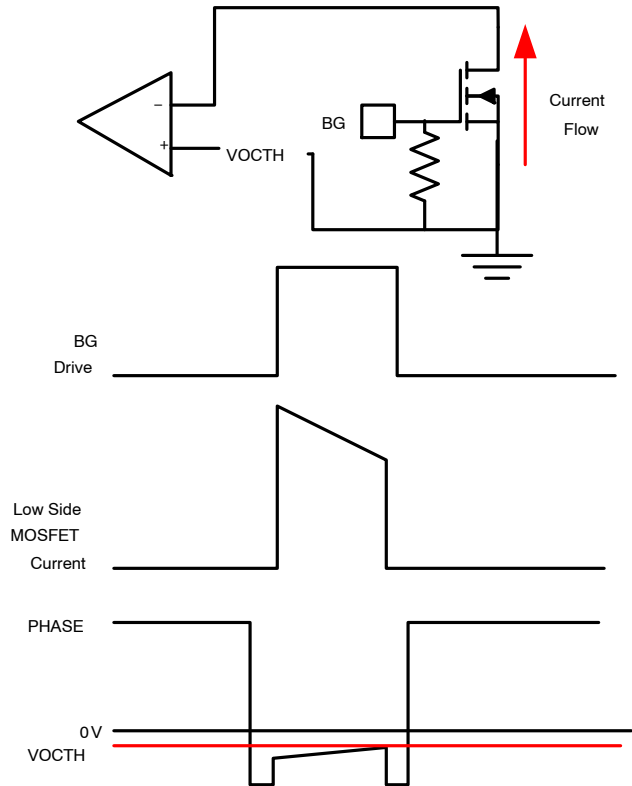

Figure 20. Current Limit Trip
In case of an overload, the low-side (LS) FET will conduct large currents. The regulator will latch off, protecting the load and MOSFETs from excessive heat and damage. Low-side $R_{DS(on)}$ sense is implemented at the end of each LS-FET turn-on duration to sense the current. While the low side MOSFET is on, the V_{SW} voltage is compared to the user set internally generated OCP trip voltage. If the V_{SW} voltage is lower than OCP trip voltage, an overcurrent condition occurs and a counter counts consecutive current trips. If the counter reaches 7, the PWM logic and both HS-FET and LS-FET are turned off. The regulator has to go through a Power On Reset (POR) cycle to reset the OCP fault as shown in Figure 20.